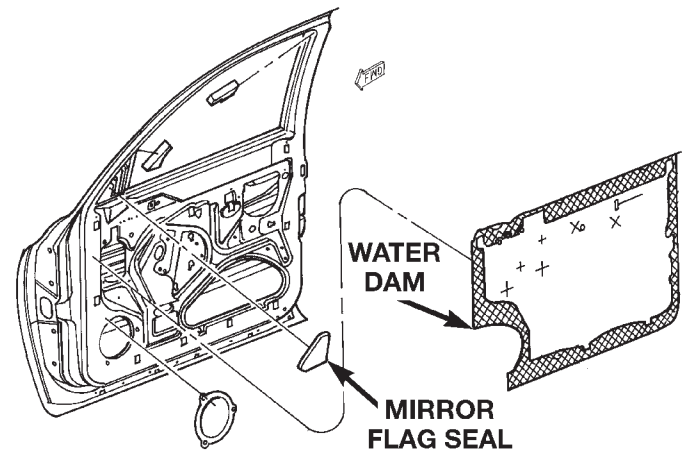

Fig. 6 Mirror Flag Seal Remove/Install
(1) Remove the trim panel from the inside of the front door. Refer to Group 23 - Body for the procedures.
(2) Remove the mirror flag seal from the inner door panel (Fig. 6).